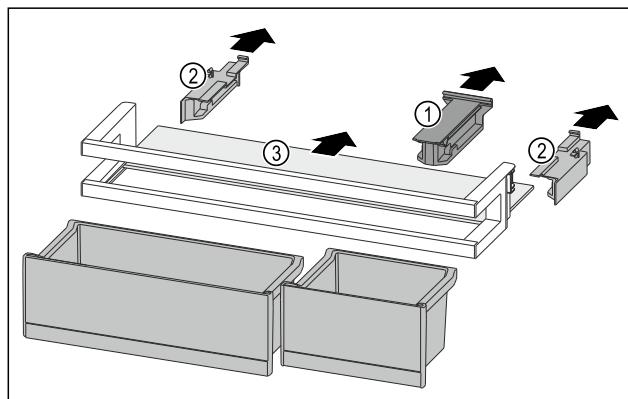

Fig. 110
- ▶ Pull off the holding part Fig. 110 (1).
- ▶ Pull off the side parts Fig. 110 (2).
- ▶ Remove the shelf Fig. 110 (3).